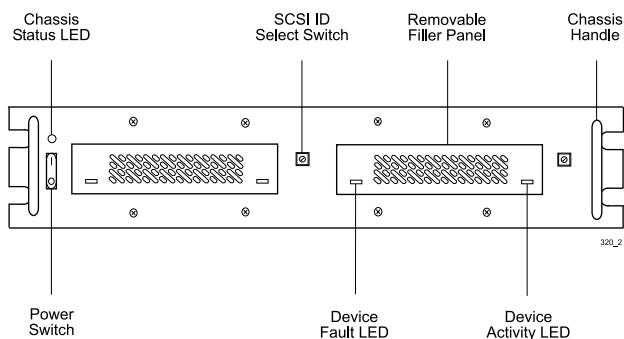

Figure 2: DS320 Front Panel
(Figure 2)
Two (2) SCSI ID selection switches are located on the front panel of the DS320 enclosure (Figures 2 & 10). These rotating switches can be adjusted with the provided alignment tool.